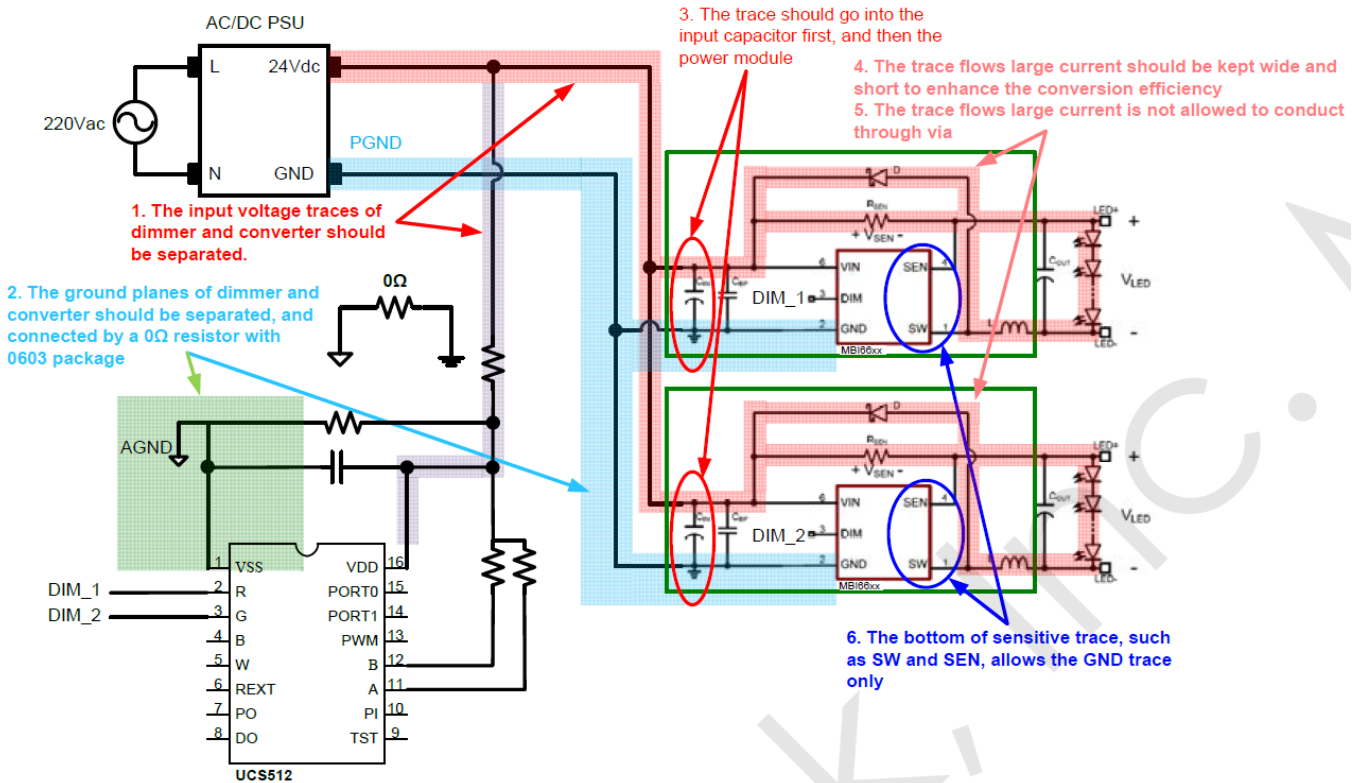

Fig.8 The layout guideline of multi-module dimming application
1. For the multi-module dimming application, the input voltage traces of dimmer and converter should be separated. (Please refer to the 1st point in Figure 8)
2. For the multi-module dimming application, to prevent the noise interference, the ground planes of dimmer and converter should be separated, and connected by a 0 Ω resistor with 0603 package. (Please refer to the 2nd point in Figure 8)
4. The trace with large current should go into the input capacitor first, and then the power module. (Please refer to the 3rd point in Figure 8)
5. The trace flows large current should be kept wide and short to enhance the conversion efficiency. (Please refer to the 4th point in Figure 8)
6. The trace flows large current is not allowed to conductor through via. (Please refer to the 5th point in Figure 8)
7. To prevent the noise interference, the bottom of sensitive trace, such as SW and SEN, allows the GND trace only. (Please refer to the 6th point in Figure 8)